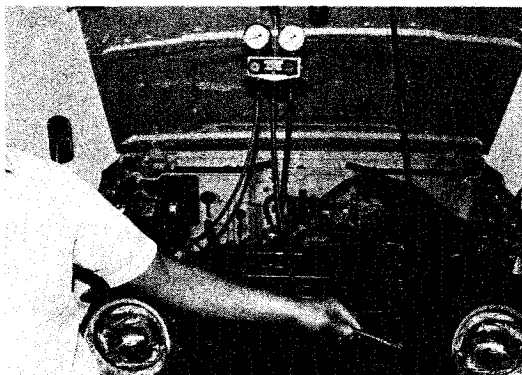

Fig. 62
- 1) Discharge the refrigerant very slowly from the refrigeration system. See Fig. 62.